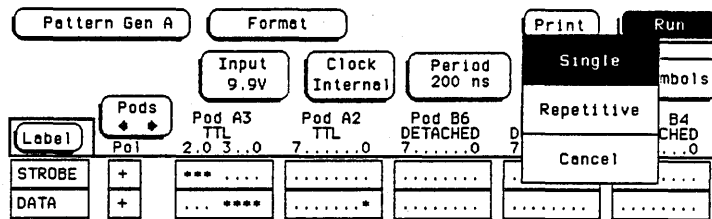

Figure 4-10. Run-Single Selection
- k. Touch **Run**, then drag finger to **Single**. See figure 4-10.